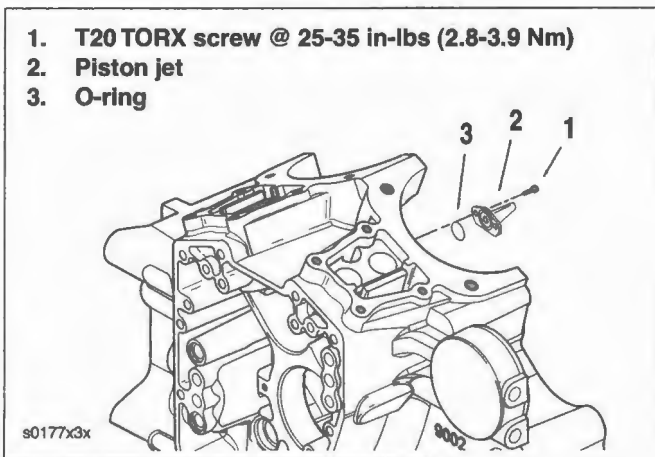

Figure 3-142. Piston Jets
- See Figure 3-142. Remove two T20 TORX screws (1) to free piston jet (2) from crankcase.
- Remove O-ring (3) from groove in mounting flange of jet. Discard O-ring.
- See Figure 3-142. Apply a very thin film of clean H-D 20W50 engine oil to **new** O-ring (3) for piston jet. Install **new** O-ring in groove of jet mounting flange.